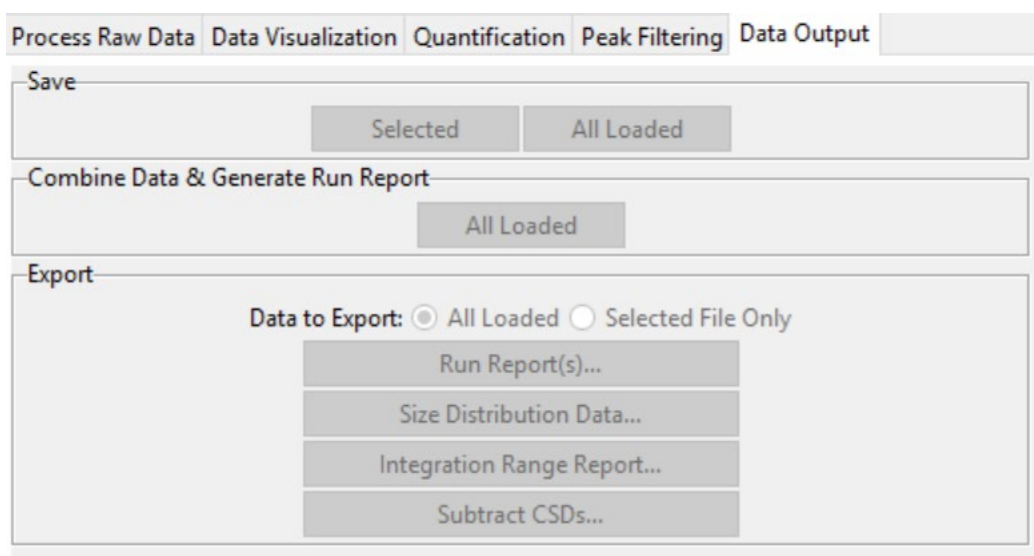

Figure 6. Screenshot of Data Output section of the nCS1 data analysis software
6.2.2.4 Once data is reviewed, the individual run files can be combined into a single data file. Using the software, click “combine all loaded” to create a single file from the individual CSD data files loaded on the software. This new file can be saved with the file name of your choice. The data output portion of the software is shown in Figure 6.